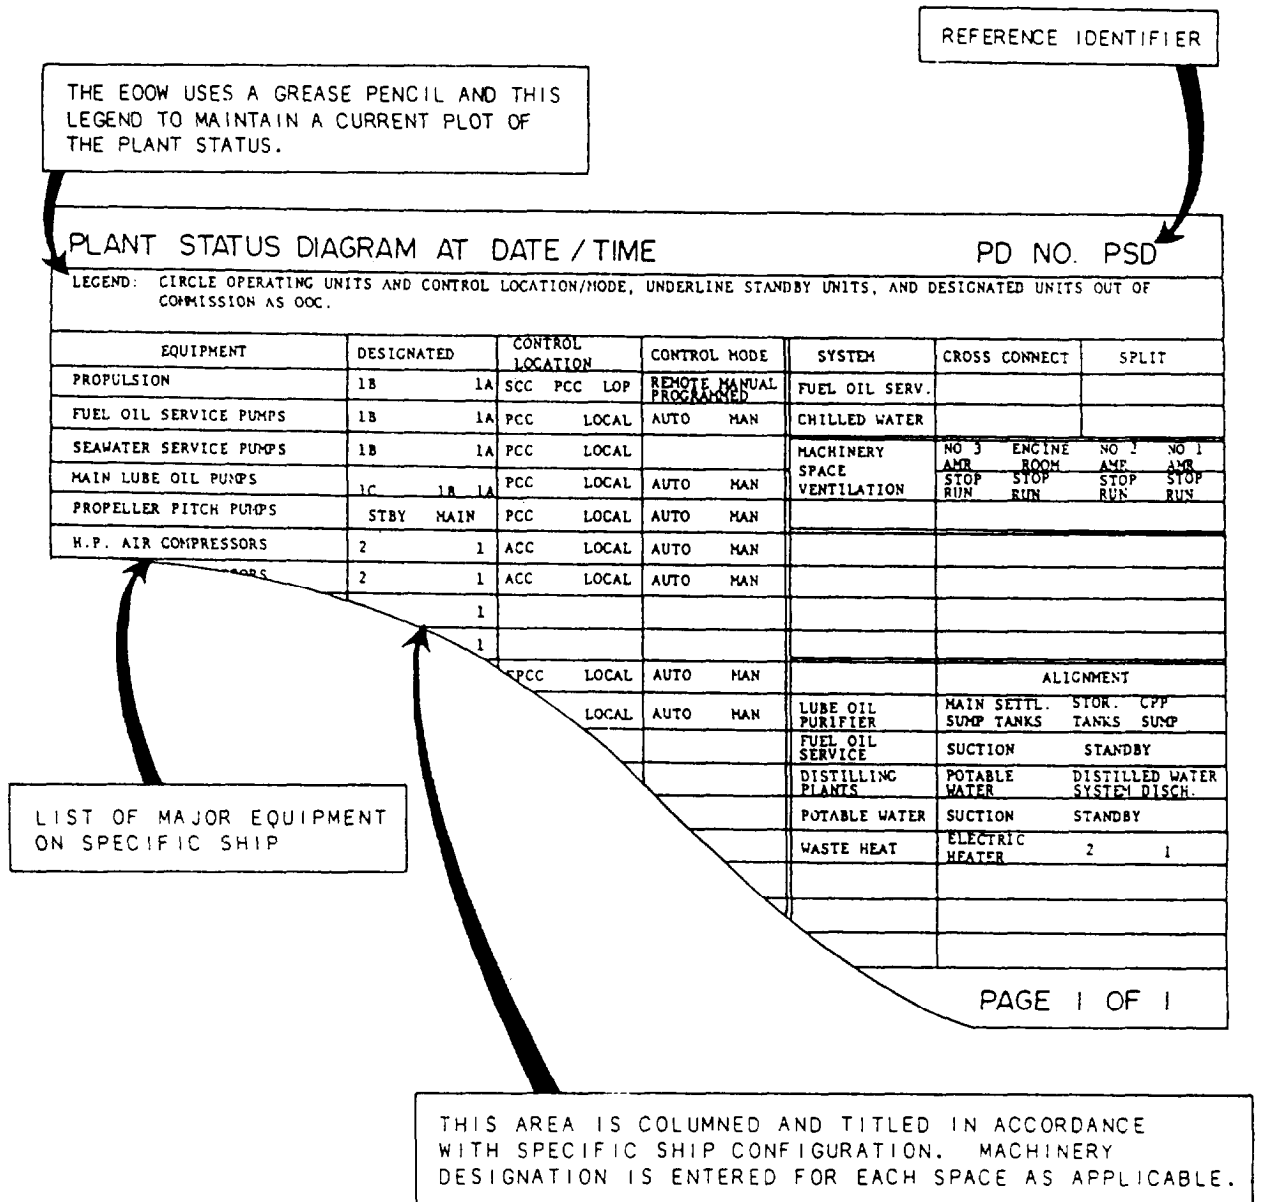

Figure 1-6.—Sample plant status diagram.
- Plant status diagrams (fig. 1-6) providing a systematic display of the major systems and cross-connect valves as well as a graphic presentation of the major equipment in each machinery space. These diagrams are used to maintain a current plot of systems' alignment and equipment operating status.